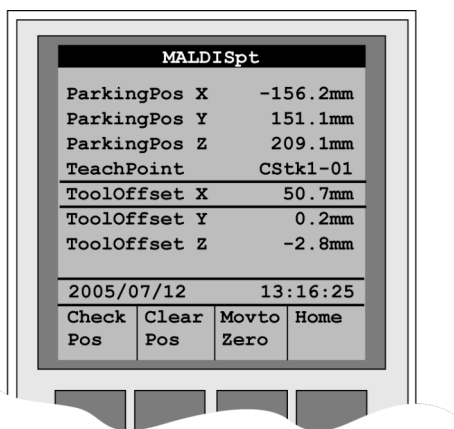

Figure 12. MALDI Tool Setup Object Screen
- 3 After selecting **MALDISpt** the X Y Z positions for the MALDI Tool Parkstation (**ParkingPos**) will be displayed (see Figure 12).